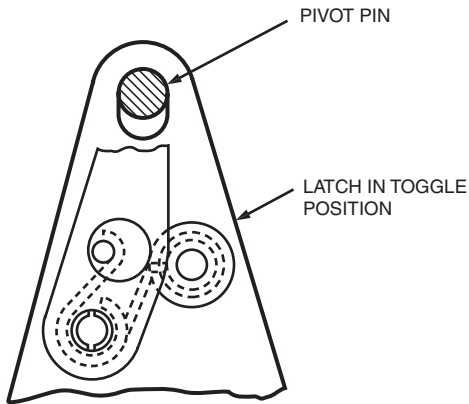

Figure 21.
- A. To prevent bottoming, set the stop bolt, inside the operating housing, so that the slotted side plates of the latch assembly at the upper pivot bear snugly against the pivot pin when the latch is in the toggle position as shown in Figure 21.